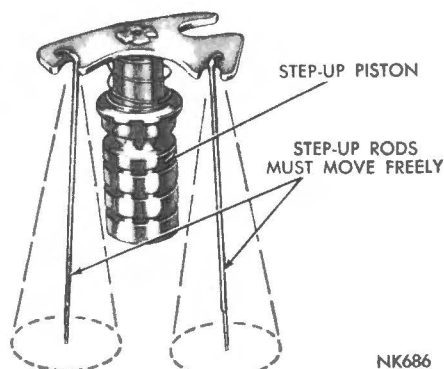

Fig. 8 Step-up Piston and 2 Stage Rods
(7) Before installing the step-up piston, be sure the step-up rods are able to move freely each side of the vertical position, as shown in (Fig. 8). The step-up rods must be straight and smooth.